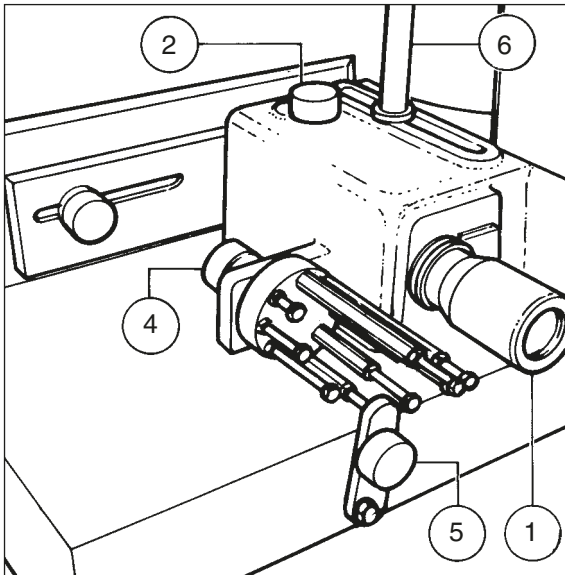
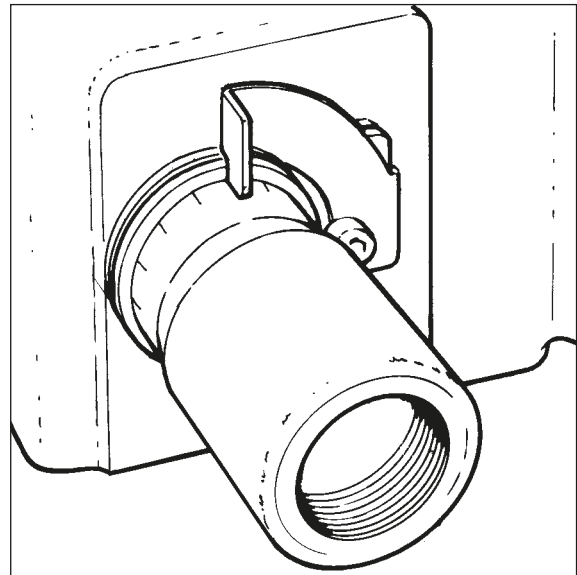

Fig.8
Fig.9
The spindle fence body is fixed to the table with 2 bars (6). The spindle fence can be moved over a distance of 170 mm, which is enough to install tools with a max.diameter of 220 mm. For precision work it is recommended to use the micrometer adjustment on the infeed fence (fig.8,1 + fig.9). Loosen the knob (2), turn the micrometer adjustment (1 turn = 1,5 mm), then tighten again the knob. The opening between the fences must be kept as little as possible.
There are also 2 revolver stops with 8 positions allowing a fast adjustment of the spindle fence (fig.8,4-5).